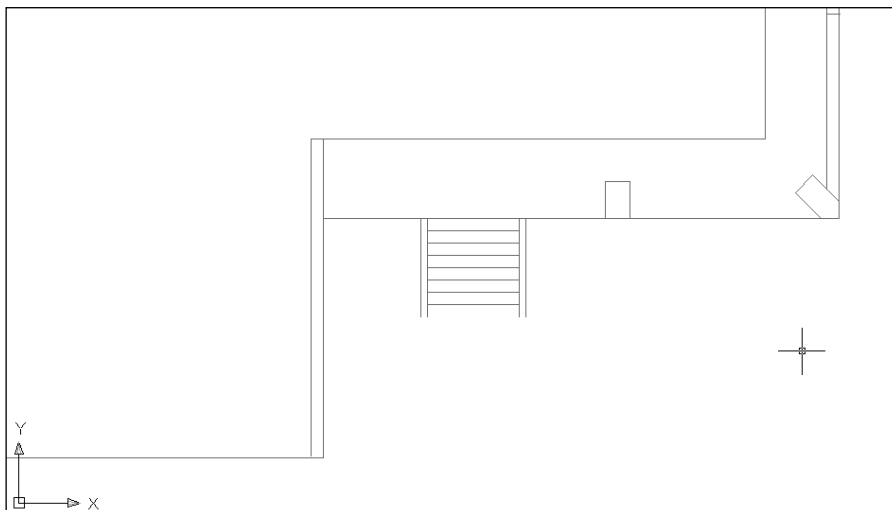

Figure 8-7: The new view of the drawing after using Zoom Dynamic.
12. You are back in Pan mode again. Move the Pan box to the bottom-right corner of the warehouse. Right-click and choose Enter to zoom in on this new view. Your display should look approximately like Figure 8-7.